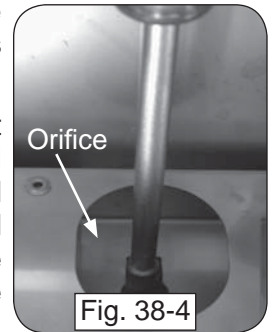

Fig. 38-4
5. Use a $\frac{3}{8}$ " hex nut driver to remove the exposed orifice (Fig. 38-4) and replace it with the correct orifice for the new gas. (See Table 1 at the beginning of this document for orifice sizes.)